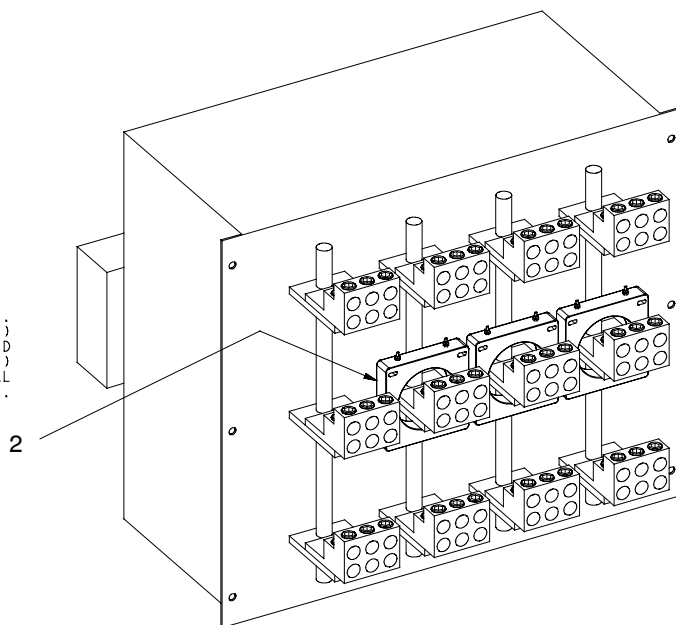

Figure 53 Decal GM70205 Location
34. Place decal GM70205 on the mounting plate as shown in Figure 53 and record the required information on the decal.